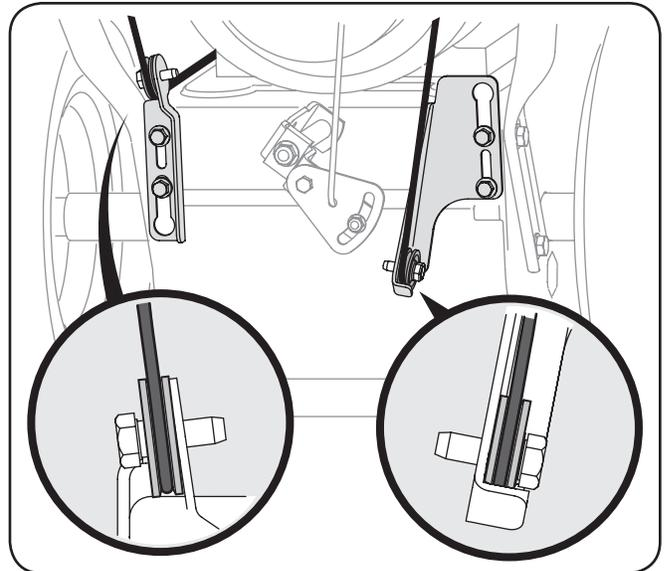
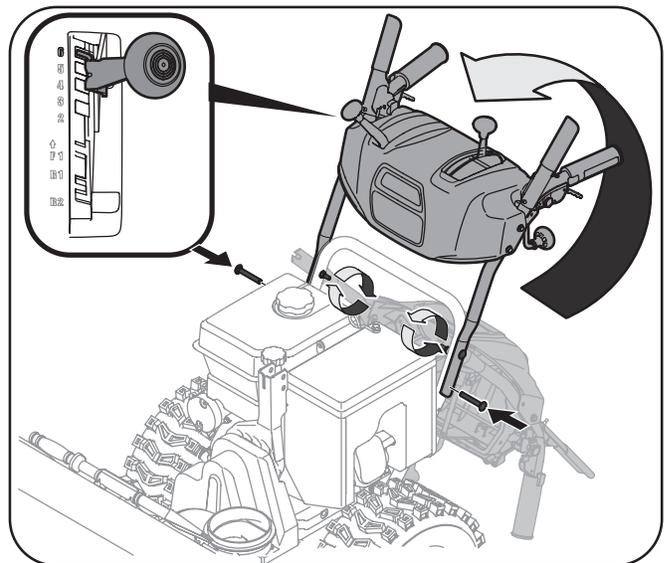

Figure 3-2
Figure 3-3
- Place the shift lever in the Forward-6 position. See Fig. 3-3.
- Observe the lower rear area of the snow thrower to be sure both cables are aligned with roller guides. See Figure 3-2. Pull up on the upper handle, align the upper handle with the lower handle. See Fig. 3-3.